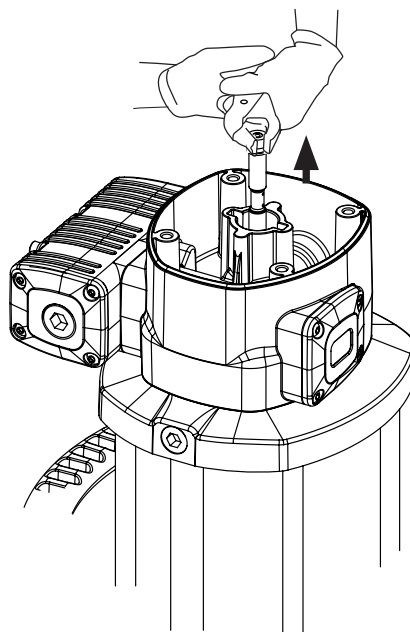

Fig. 7a
1. Unscrew the bolts (2) and remove the cap (3).
2. Unscrew the sensor sleeve (4).
3. With a manual clamp on the nut (5), pull the rod (39) outwards until its central recess appears (fig. 7a). Then, with another manual clamp, grab the rod (39) on said recess to prevent sealing surface to be damaged, and unscrew the nut (5) (fig. 7b).
4. Remove O-ring (6) and ring (7), and replace them with new ones later.
5. Unscrew the bolts (56). Pull the motor body (13) outwards to free it along with bridle (36).
6. Take away the gasket (9) and replace its seals (8) and (10).
7. Unscrew the bolts (37) and split the motor (13) from the bridle (36). Take away the washer (32) and replace the seal (8).
8. Take away the cylinder (51) while carefully holding the air piston (46). Replace the piston seal (45).
9. Reassemble in reverse order, applying thread locker in screws (37), nut (5) and sensor sleeve (4).